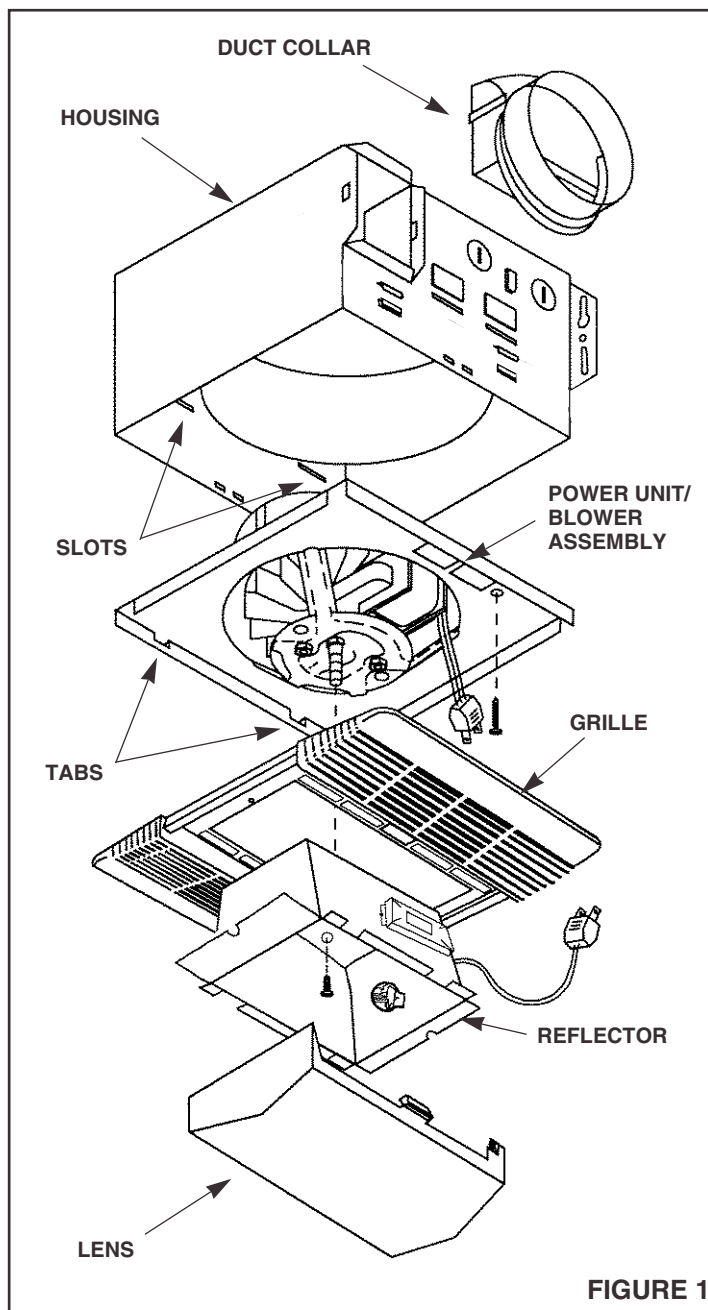

FIGURE 1
2. **Refer to Figure 1.** Remove power unit/blower assembly from the housing. Remove screw and pull power unit assembly tabs out of slots in housing. Set unit aside until needed.
1. **Refer to Figure 1.** Place duct collar over flanges at discharge opening of fan. Secure collar by snapping tabs into slots in flanges.